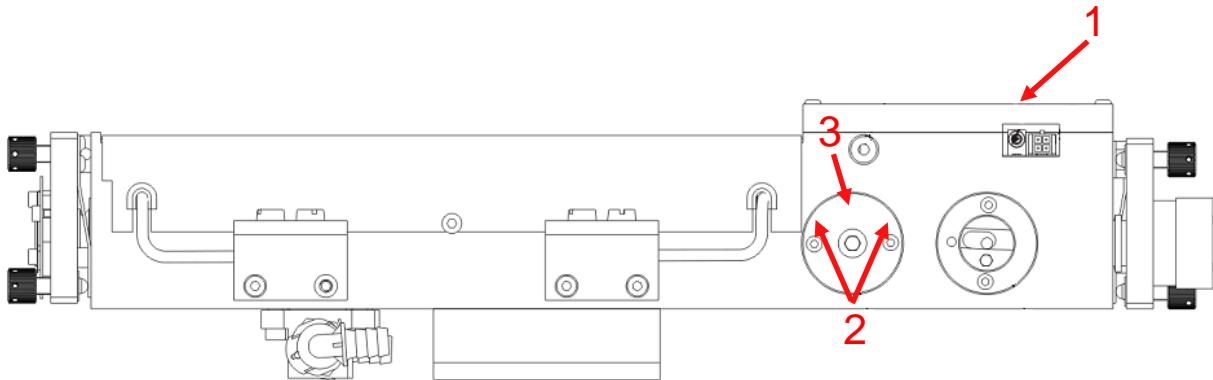

Figure 18 Side view of the NL300 oscillator
1. Disconnect Q-switch synchronization cable (1 in Figure 18).
2. Unscrew polarizer holder screws (2 in Figure 18).
9. If you are adjusting by a maximum power: slightly tuning polarizer with an Allen hex key (3 in Figure 18) find the position for maximum output power (use power or energy meter).
10. Tighten the screws (2 in Figure 18).
13. Adjust the position of polarizer (3 in Figure 18) so that laser generation would be strongest.
18. Plug the Q-switch synchronization cable back to the oscillator (1 in Figure 18) and check the energy of the oscillator.